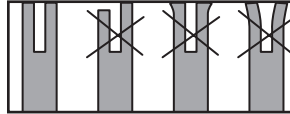

Fig. 39
5. Check the guide bar 'rail' for wear: Hold a ruler (straight edge) against the side of the guide bar and 'cutter side plates'. If there is a gap between the ruler and guide bar the guide bar 'rail' is normal. If there is no gap (ruler flush against the side of the guide bar) the guide bar 'rail' is worn and needs to be replaced with a new one of the same type (Fig. 39).